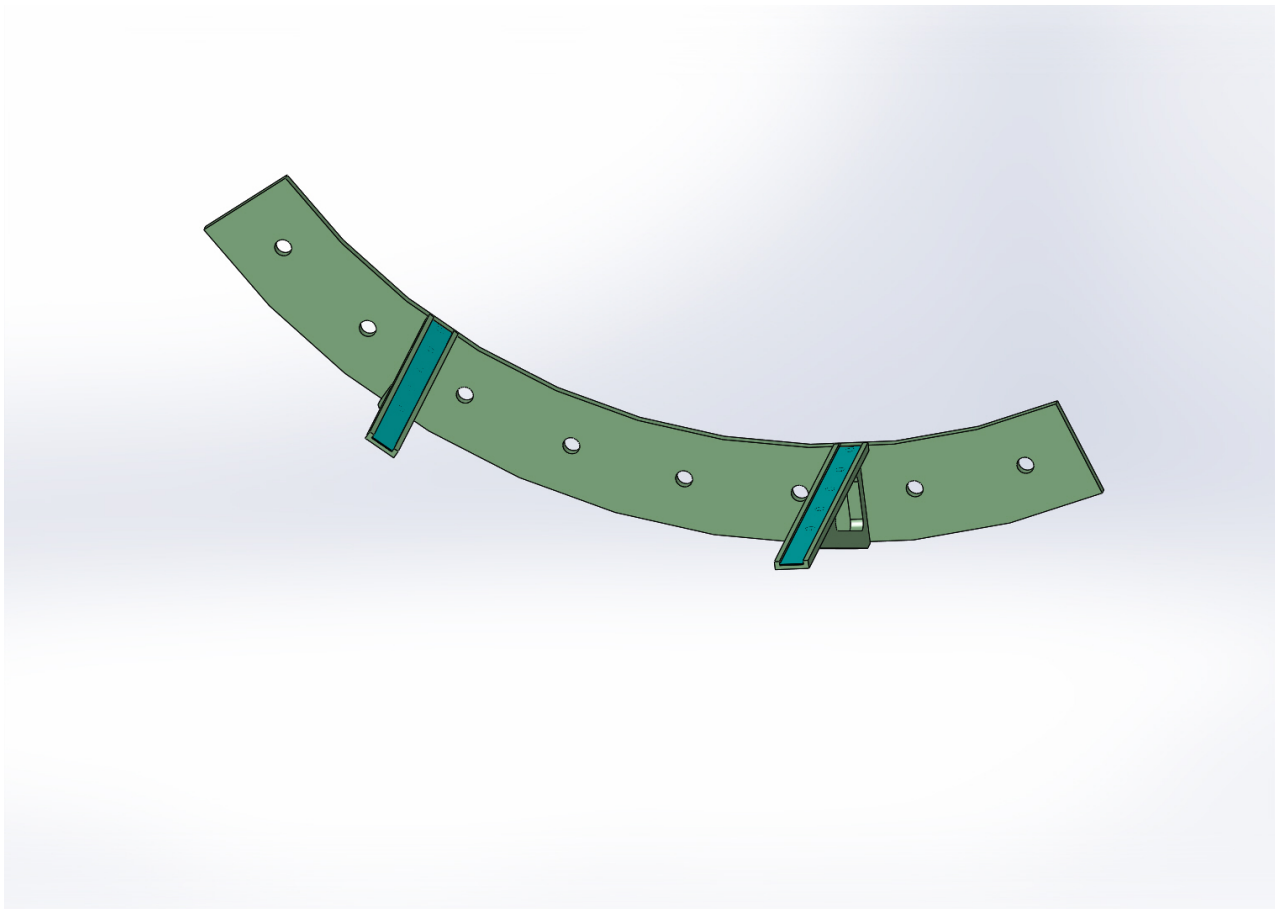

Figure 4: D1300379 aLIGO Pcal Tooling, Periscope Installation Entry Pad Assembly
1. install Installation Entry Pad Assy (D1300379 see Figure 4) at bottom of A7 adapter flange